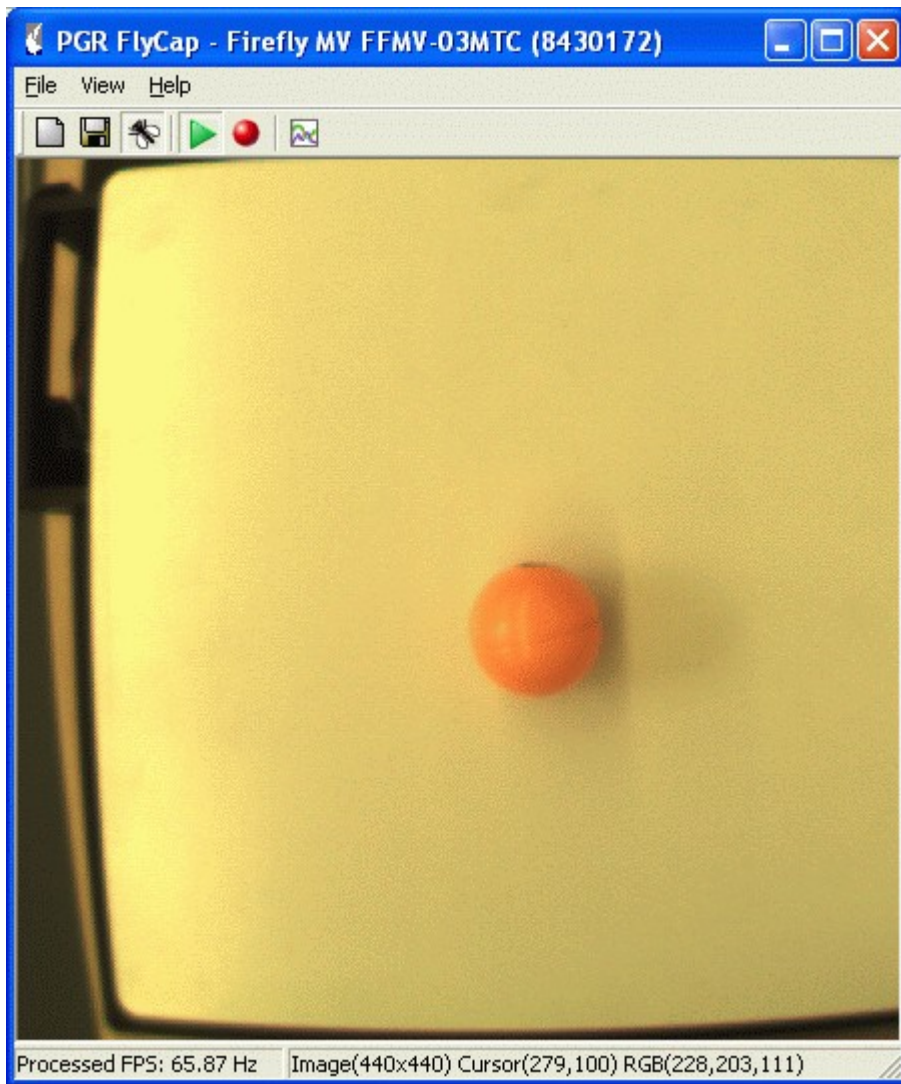

Figure 13: View when setting *Width* to same value as *Height*.
11. Set the *Width* to the same value as the *Height*, so the border of the camera image surrounds the plate. For example, setting the *Width* to 440 changes the view to Figure 13.